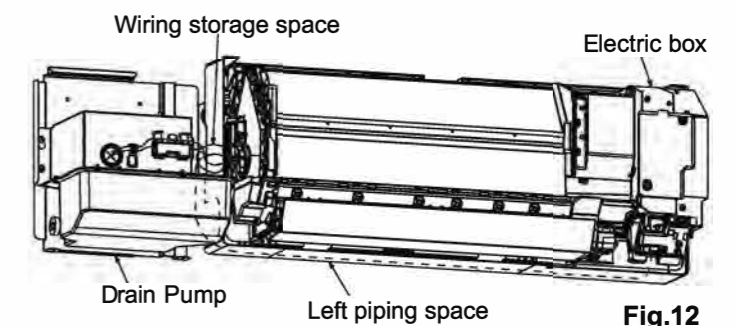

Fig.12
- Pass the wiring through the left piping space of the indoor unit to the electric box as shown in Fig.12.